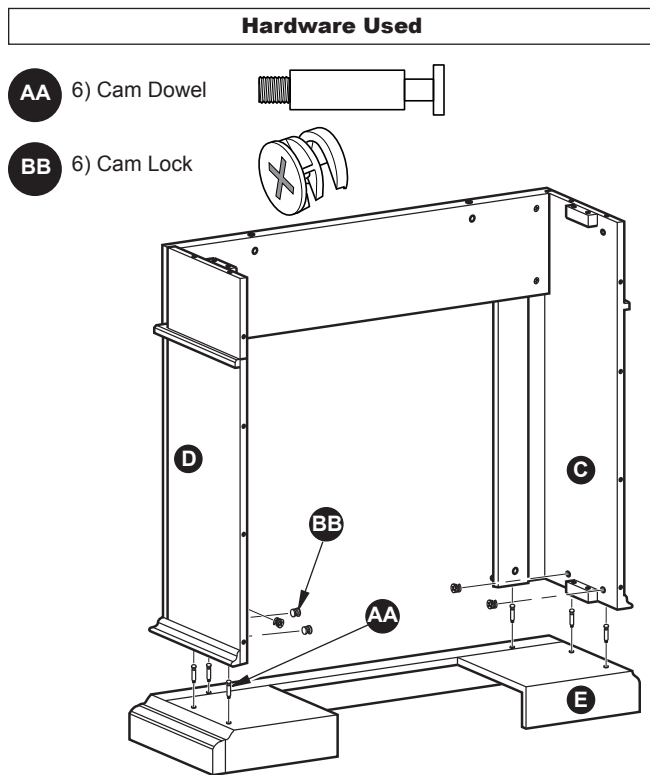

Figure 2
2. Insert Cam Locks (BB) into the Left Side Panel (C) and the Right Side Panel (D). Screw Cam Dowels (AA) into Base (E). Attach Base (E) into assembled frame by tightening the Cam Locks (BB) as shown in Figure 2.